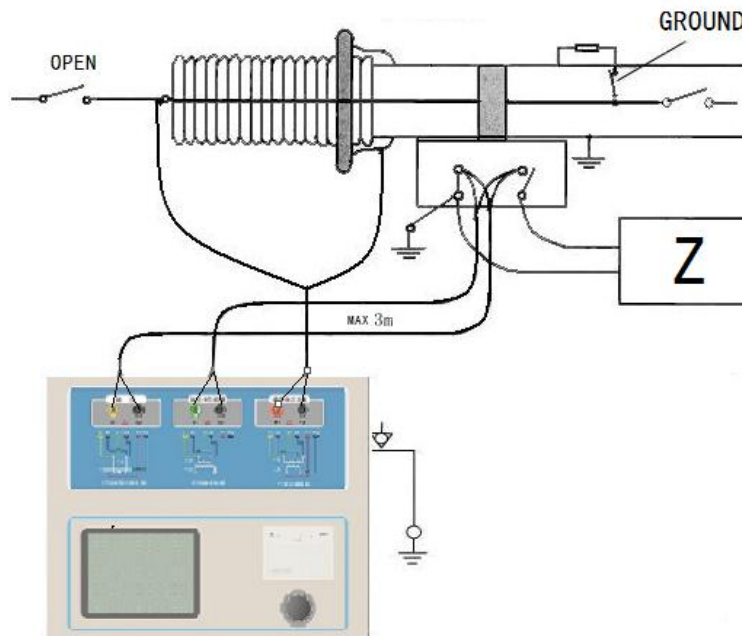

Figure D.4 ZXHQ-B on GIS (SF6) switch on the test at the time of CT Connection
4. ZXHQ-B in the GIS (SF6) switch on the wiring of the CT test mode as shown in Figure D.4. NOTE: Disconnect all connected with the bus switch, grounding switch closed.